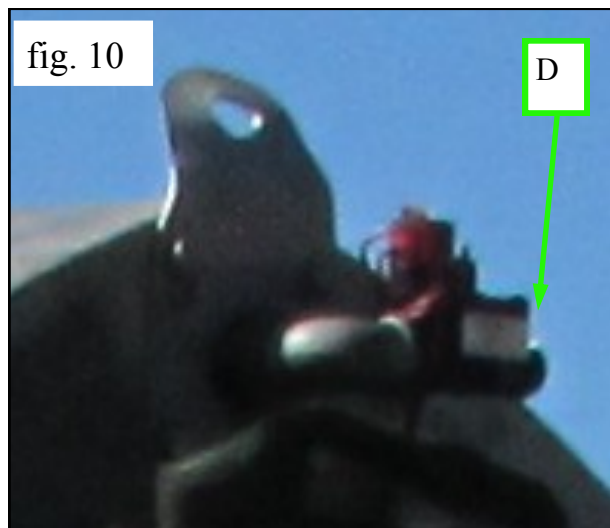

fig. 10
- 7) Connect the water feed pipe to the flush valve at the end of pipe **D** **fig. 10**.